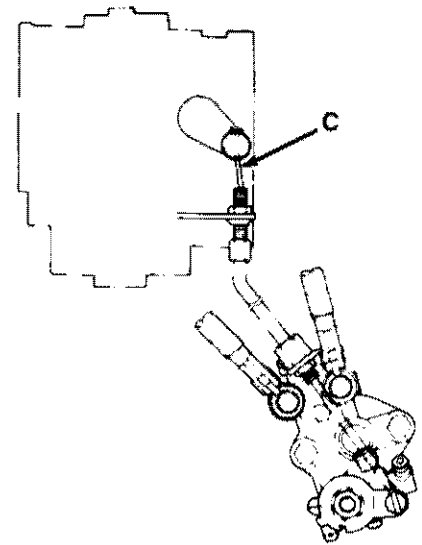

Fig. SZ14-7—Disconnect oil pump control cable (C) at carburetor throttle lever and refer to text for checking oil pump output.
approximately five minutes, then stop engine. Disconnect oil pump control cable (C—Fig. SZ14-7) at carburetor throttle lever. Detach oil supply line at oil tank outlet. Connect oil gage 09900-21602 to oil supply line. Fill oil gage with a recommended two-stroke oil unit even with an upper reference mark. With oil pump control cable (C) in released position, start engine and maintain engine speed at 1500 rpm. Allow engine to run for five minutes. After five minutes, stop the engine and observe oil gage. Recommended oil consumption is 2.7-3.5 mL (0.09-0.12 oz.) in five minutes at 1500 rpm.